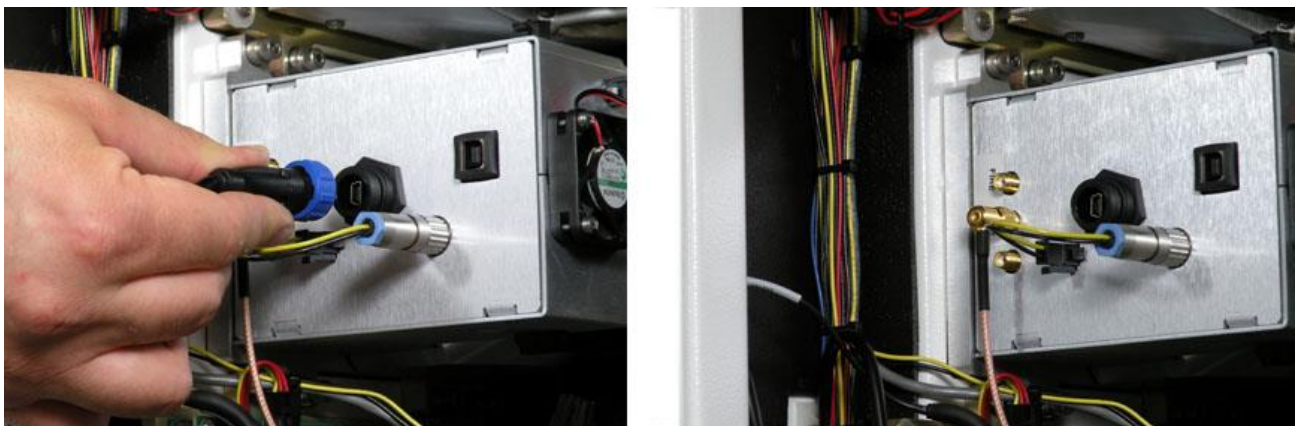

Figure 146. Remove USB connection
3. Remove the USB connection (Figure 146).